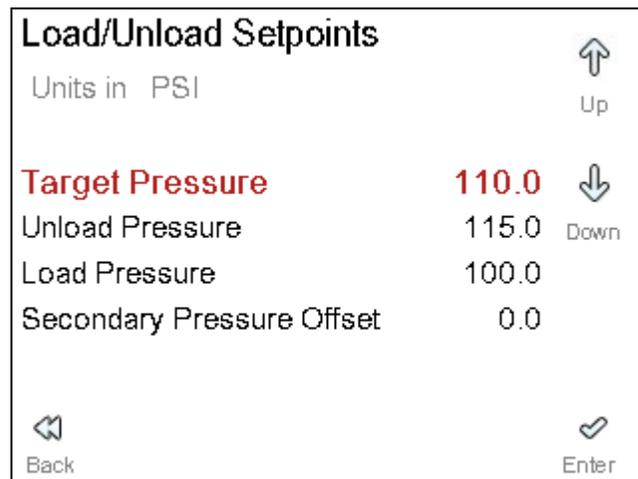

Figure 3-4: Load/Unload Setpoints Menu
6. Press the *Enter* button. The *Load/Unload Setpoints* menu will appear as in Figure 3-4.